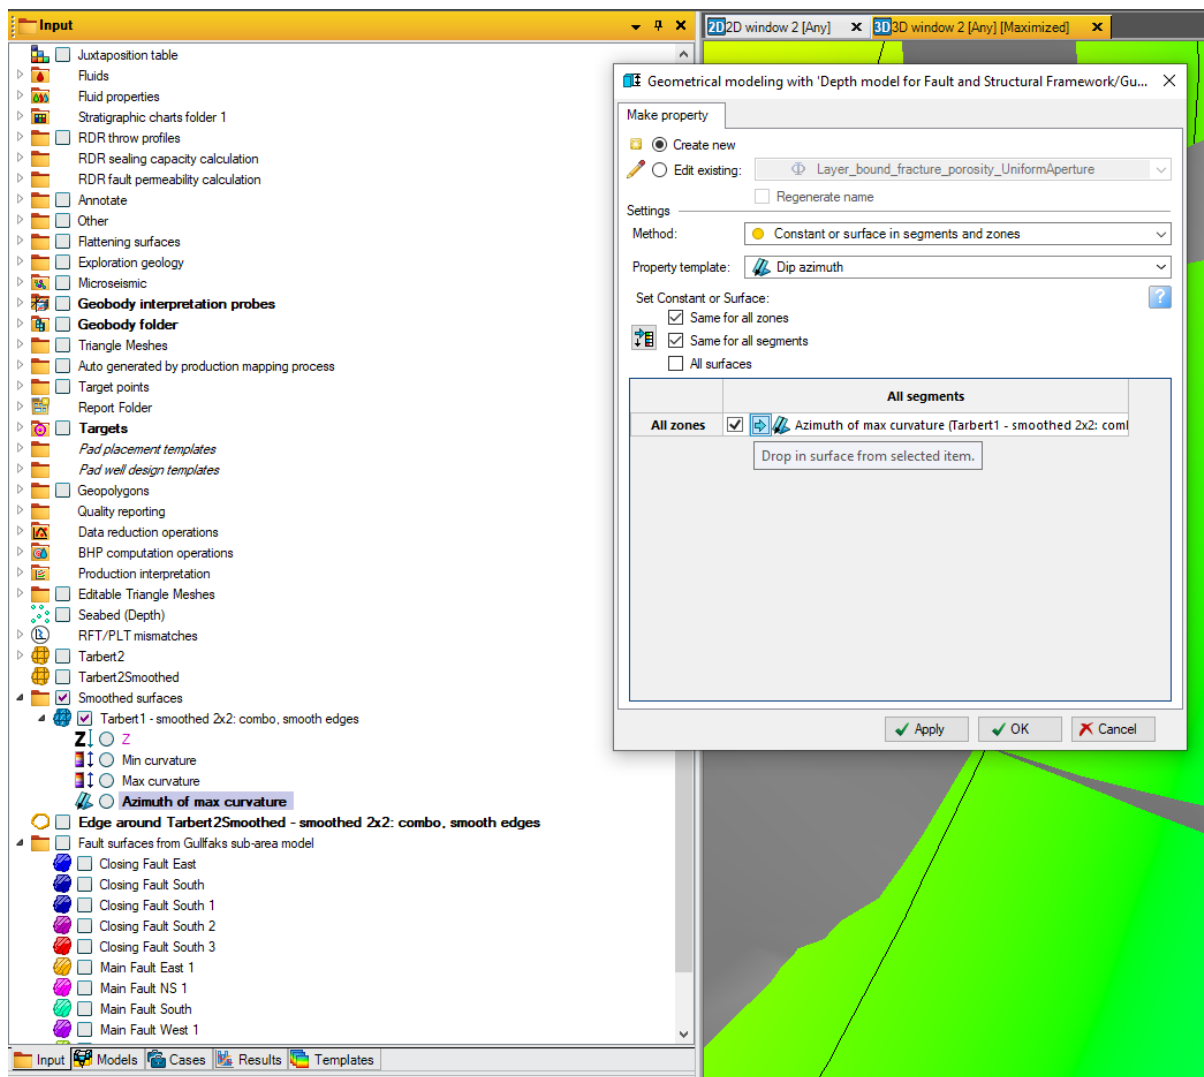

Figure 12: Converting the curvature surface attributes to grid properties using the Geometric Modelling module.
4. The surface attributes can now be converted to grid properties using the Geometric Modelling module on the Structural Modelling tab. Open this module and select the "Constant or surface in segments or zones" method. Generally it is easiest to write the curvature data to all cells in the grid (set the Constant or Surface to Same for all Zones and Same for All Segments), although it is also possible to write the data only to specific stratigraphic zones. Click on the check box in the "All Segments, All Zones" cell of the table to activate the blue arrow button, then select the Min Curvature attribute in the Input pane and click on the blue arrow button to drop this into the table (Figure 12). Set the Property Template to Strain, and then click on "Apply". This should create a new grid property on the Models pane labelled "Min curvature". Repeat this procedure to create grid properties for Max curvature and for Azimuth of Max Curvature (use the Dip Azimuth Property Template for the Azimuth of Max Curvature).